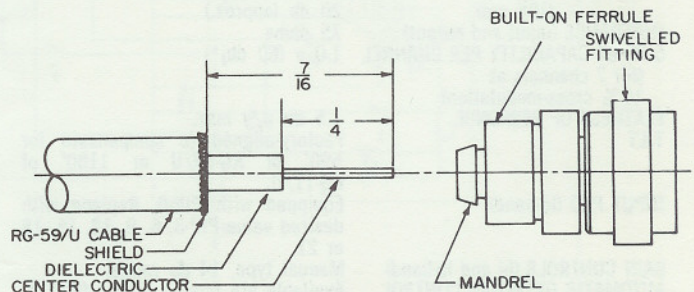

Fig. 2—RG-59/U Prepared for F-59 or F-59A Male Connector
1. Prepare RG-59/U cable (F-59 or F-59A connectors). See Fig. 2. Cut cable flush. Remove 7/16" of outer jacket without nicking shield. Fan back shield over outer jacket and trim off shield close to outer jacket. Remove 1/4" of dielectric without nicking center conductor. Without bending center conductor, scrape off any fuzz and inspect end for burrs. If present, trim with cutters.